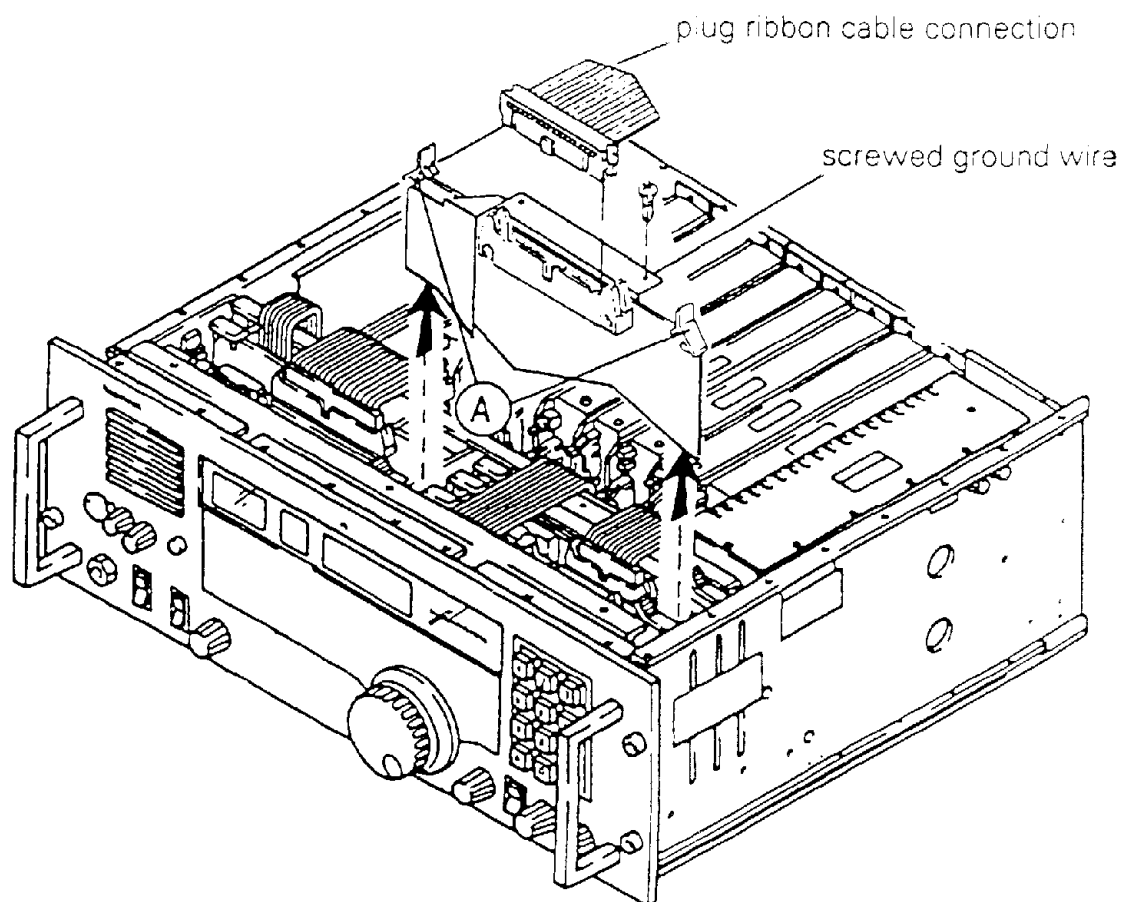

Fig. 3-13 Printed Circuit Board (PCB) Removal in the Control Part
- now remove the relevant printed circuit boards behind the potentiometer, see fig. 3-13.